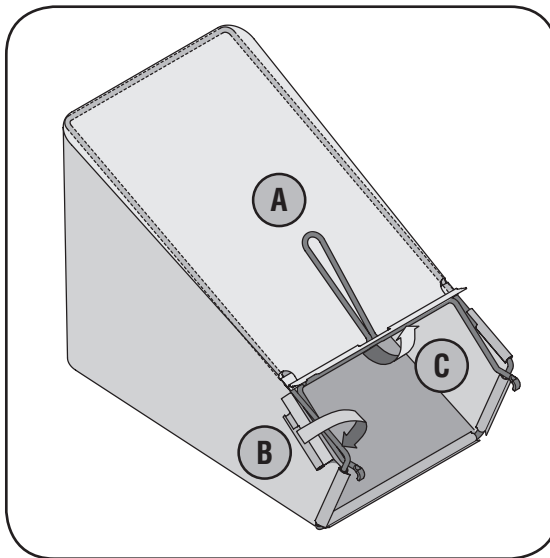

Figure 3-5: Assemble the grass catcher (if needed).
- b. Slip plastic channel of grass bag over hooks on the frame, Figure 3-5. All the plastic channels except center top of bag attach from outside of bag.